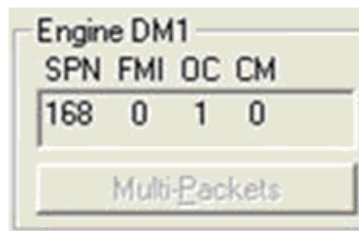

Figure 4-15 Engine DM1 single packet showing SPN, FMI, OC, CM. "Multi-Packets" button is non-active
- When engine DM1 is a single packet message, SPN, FMI, OC, CM will display (Figure 4-15).